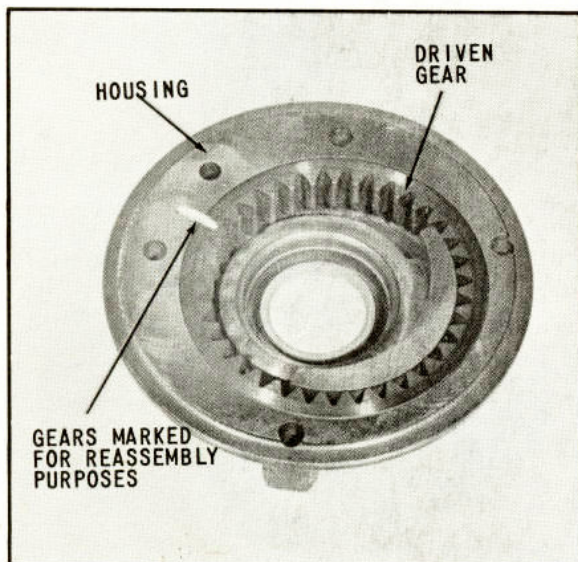

Fig. 62 Installing Pump Driven Gear
63. After seal is assembled, lubricate the pump housing with the proper transmission oil and place as shown in (Fig. 62). Install lubricated driven pump gear with identification mark as shown in (Fig. 62).